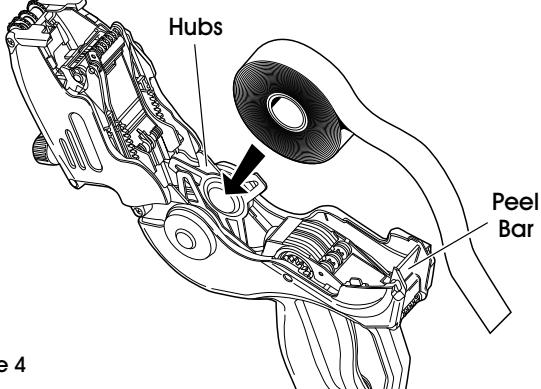

Figure 4
- Push the release button and swing the cover open until it clicks. (See Figure 4)
- Place the label roll between the hubs and click into place. (See Figure 4)